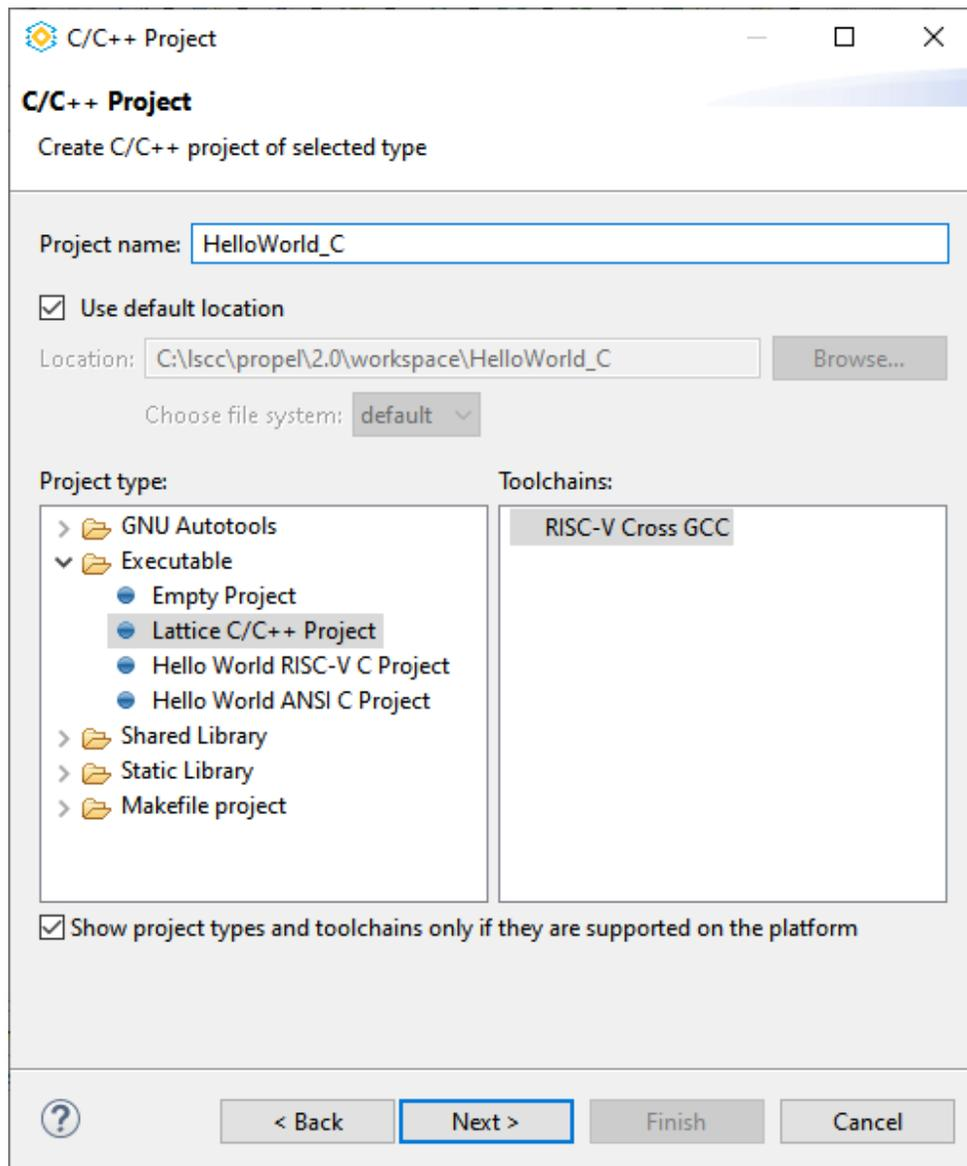

Figure 2.60. Create C/C++ Project
3. Click **Next**. The C/C++ project dialog (Figure 2.60) opens.